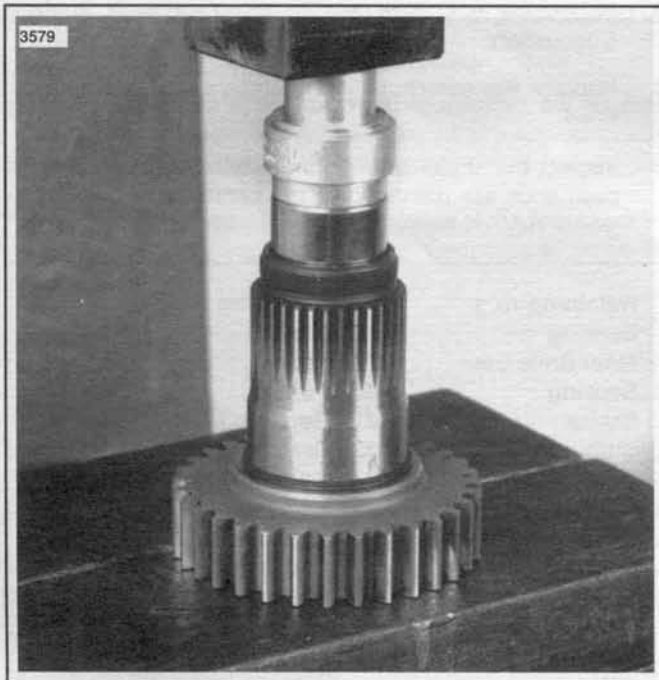

Figure 7-28. Installing Clutch Side Needle Bearing in Main Drive Gear
9. See Figure 7-28. Install clutch side needle bearing using an arbor press and the 0.315 in. step end of tool HD-37842A as shown. Press until tool is flush.